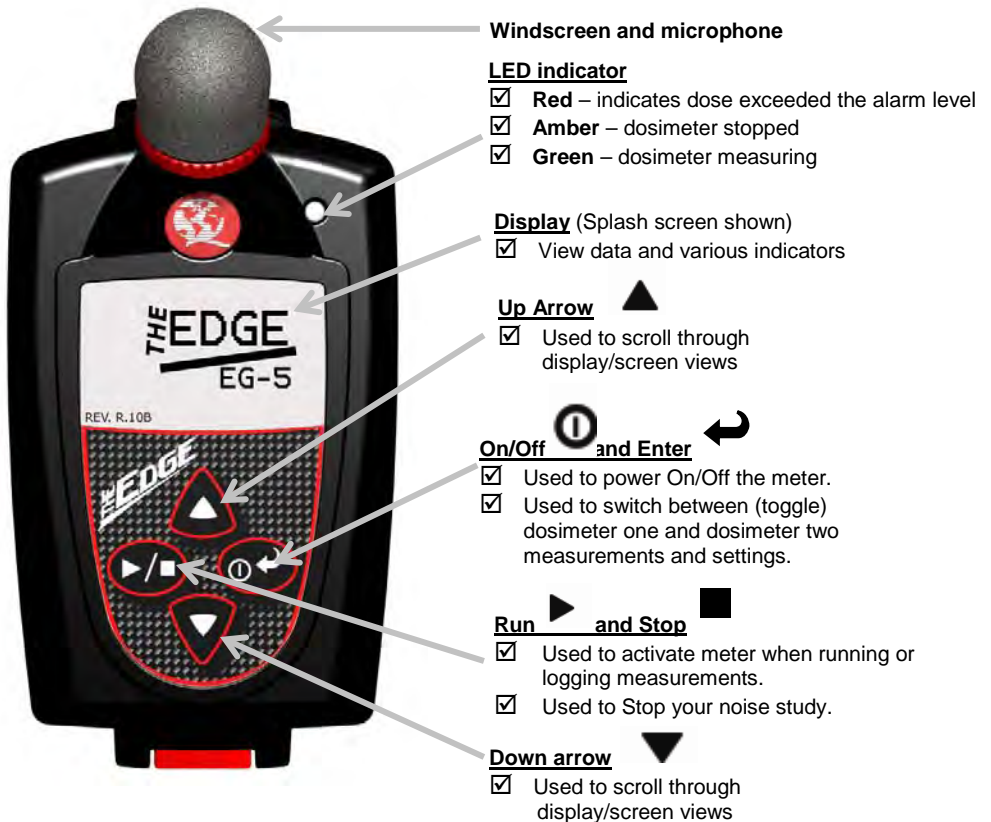

Figure 2-3: Edge KeyPad
- ☑ The Edge **splash screen** (see Figure 2-3 for an example, page 10) will appear indicating the model (i.e. "eg5") and firmware version. The screen will be in the **measurement view**.